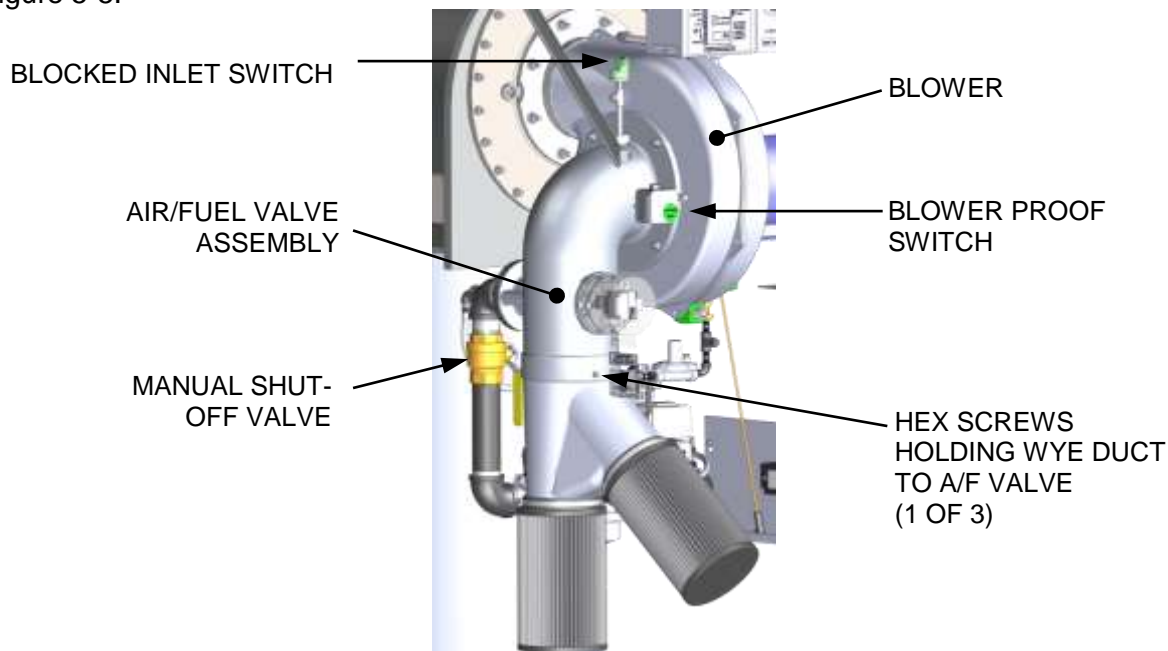

Figure 5-5: Blower Proof & Blocked Inlet Switch Locations
3. Close the manual gas shutoff valve located between the Safety Shut-Off Valve (SSOV) and the Air/Fuel Valve, as shown on Figure 5-5, below.
9. Once flame is proven, close the manual gas valve located between the SSOV and the Air/Fuel Valve (see Figure 5-5, below).
These tests check the operation of the **Blower Proof** switch and **Blocked Inlet** switch shown in Figure 5-5.
Complete the test below to check the operation of the Blower Proof switch shown in Figure 5-5.
2. Remove the air filter (see Figure 5-5, above).